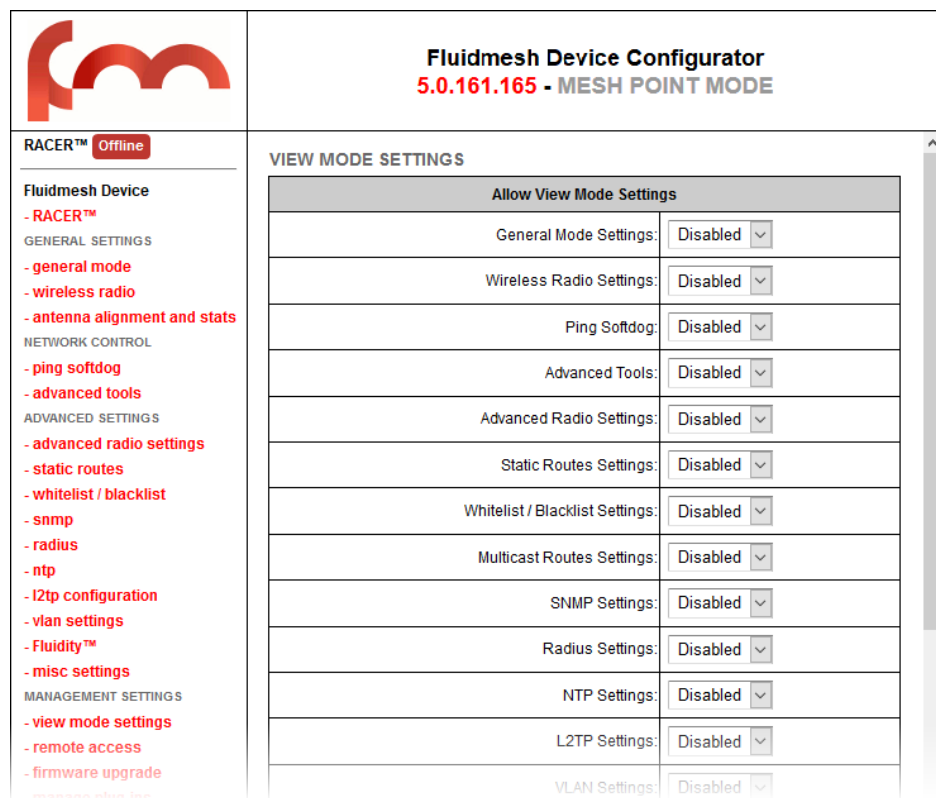

Figure 55. Configurator GUI (VIEW MODE SETTINGS dialog)
2. Click the **-view mode settings** link under **MANAGEMENT SETTINGS** in the left-hand settings menu (Figure 55 \(page 128\)).